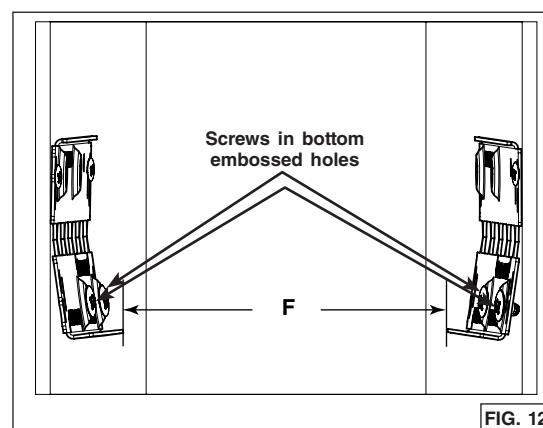

FIG. 12
If the measured distance needs to be shortened, screw two no. 8-32 x 1/4" machine screws, in each bottom embossed cabinet brackets hole; this will slightly bend the bottom part of the brackets (FIG. 12). Screw both brackets until the appropriate distance is obtained.
8. There are 7 different sizes of optional fillers (sold separately) designed to fit up to 15-in. depth cabinets (for BBN1243SS unit: HADTBN24, for BBN1303SS: HADTBN30). Choose the filler that fits better to cover the back bottom edge of the cabinet. Use 4 no. 6 x 1/2" truss head wood screws (included in the optional kit) to mount it (FIG. 12).